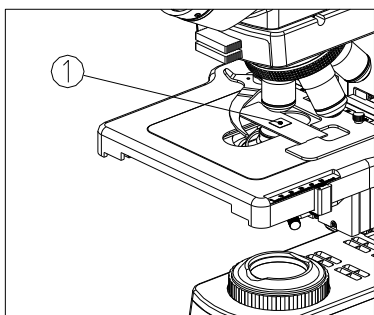

Fig. 24
- (1) Use the 4X objective to focus the specimen.
- (2) Place a drop of oil ① on the specimen (see Fig. 24).
- (3) Rotate the nosepiece counterclockwise and rotate the oil objective (100X) to the light path. Then use the fine focusing knob to focus.